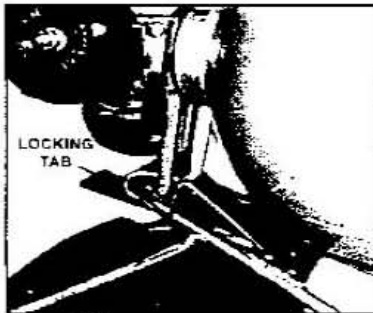

FIGURE 6
8. Replace with a fully charged cylinder and valve assembly of the same pressure rating. Slide the top of the cylinder upward under the band. Engage the cylinder hanger in the hook at the bottom of the backframe. See Figure 6.